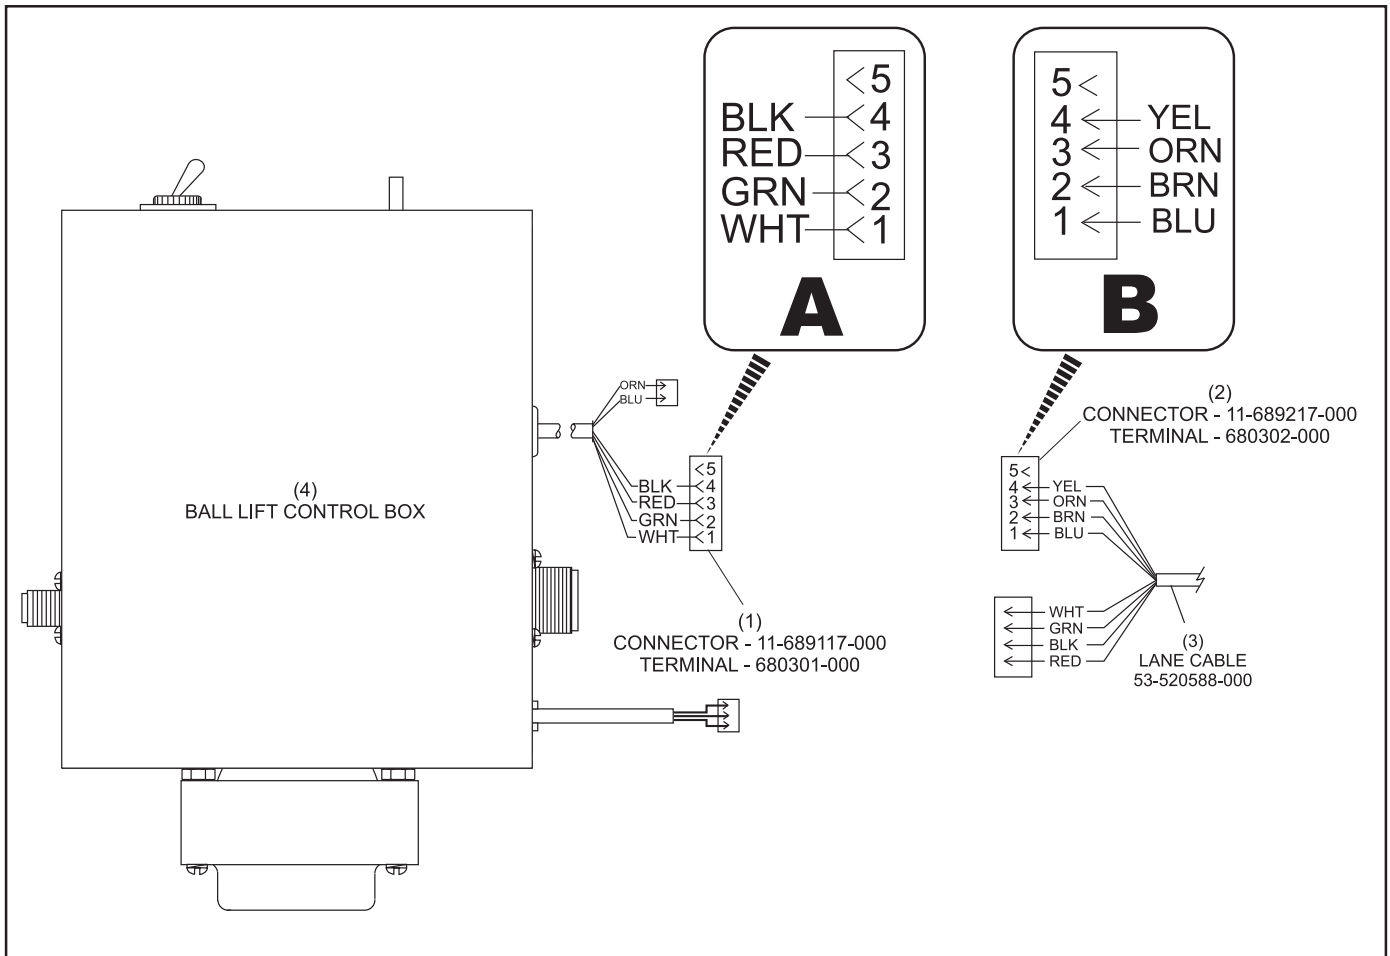

Figure 22. Install Terminals
(1) CUT CABLE HERE
(2) LANE CABLE 53-520588-000
(3) BALL LIFT CONTROL BOX
- Install terminals, (P/N 11-680301-000) on the cable from the ball lift control box. Refer to *Figure 22, Inset A*.
- Install terminals, (P/N 11-680302-000) on the lane cable, 53-520588-000. Refer to *Figure 22, Inset B*.
- Install the connector (P/N 11-689117-000), on the cable from the ball lift control box. Refer to *Figure 22, Inset A*. Pin the connector as follows:
- Install the connector (P/N 11-689217-000), on the cable from the ball lift control box. Refer to *Figure 22, Inset B*. Pin the connector as follows: